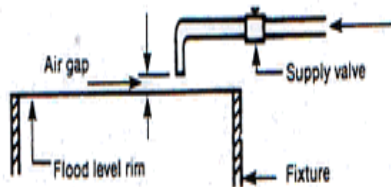

Figure 2. Air Gap
- ✓ Leave at least a one-inch air gap (see image in Figure 2 on back page) between the end of a hose and a source of potential contamination.